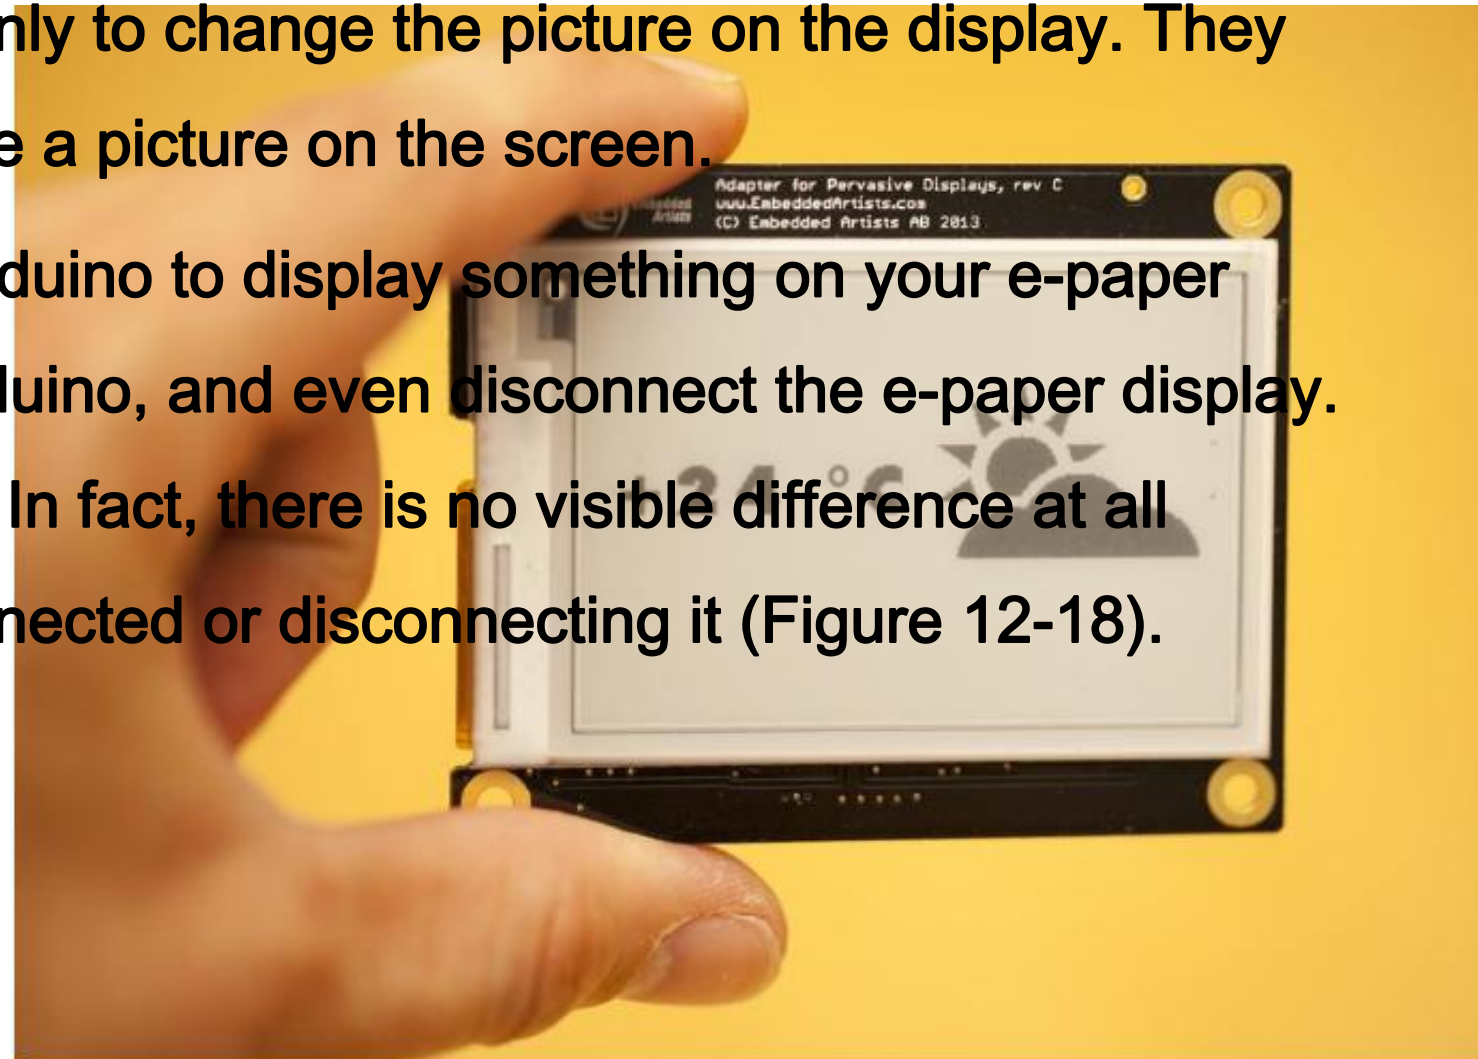

Figure 12-18. The same image stays on an e-paper display even without power
- You can try it yourself. Use Arduino to display something on your e-paper display. Then power down Arduino, and even disconnect the e-paper display. The picture stays unchanged. In fact, there is no visible difference at all between keeping e-paper connected or disconnecting it (Figure 12-18).